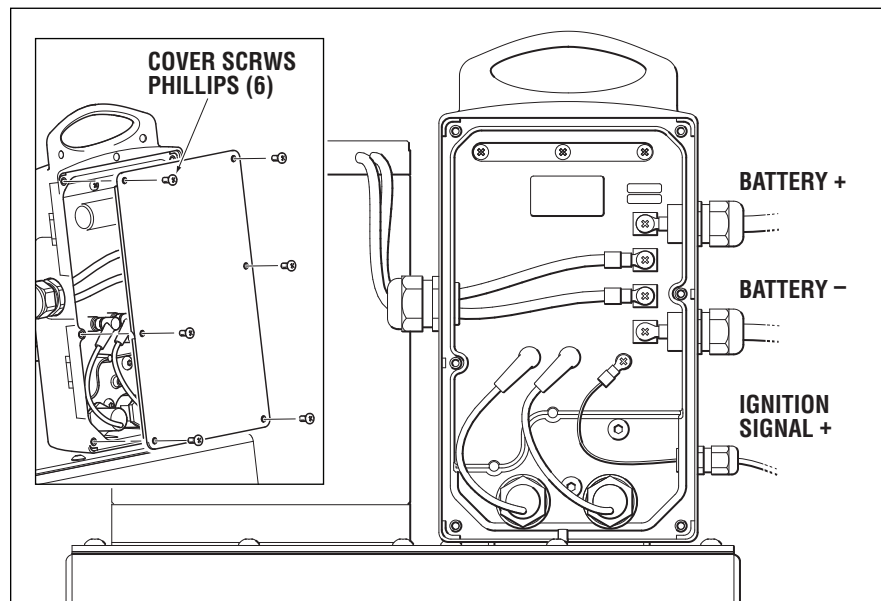

Figure 11.
- 1 Remove electronics casing cover by removing the 6 Phillips head screws. (Refer to Figure 11.)
- 2 Insert positive battery lead through the upper strain relief fitting on the electronics box. (Refer to Figure 11.)
- 4 Insert negative battery lead through the lower strain relief fitting on the electronics box. (Refer to Figure 11.)
- 1** Insert ignition wire through the small strain relief fitting on the electrical enclosure (see figure 11).
- 2** Connect the ignition wire with a #8 ring connector to the IGN post inside the electrical box. Torque to 15in-lbs (see figure 11).